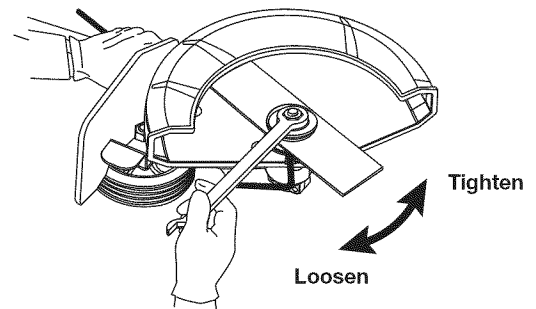

Fig. 8
3. While holding the locking rod, loosen the lock nut by turning it **clockwise** with a 13 mm wrench (Fig. 8).
8. While holding the locking rod, tighten the lock nut by turning it **counterclockwise** (Fig. 8). Make sure that the edger blade stays flat and centered against the output shaft while tightening the lock nut.